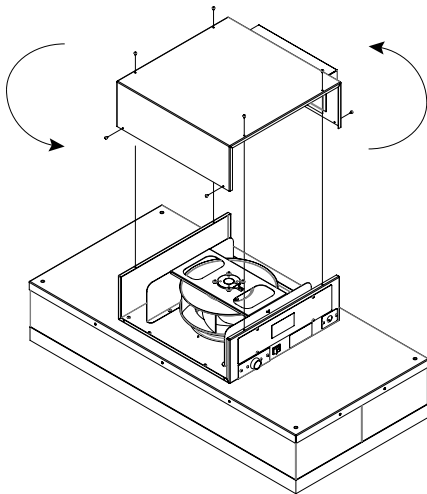

Figure 6: Opposite Exhaust Direction Change
Step 1. Remove the eight screws that secure the blower cover to the blower housing. (See Figure 6.)